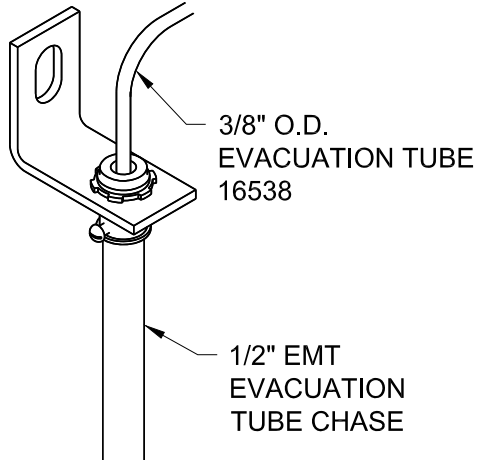
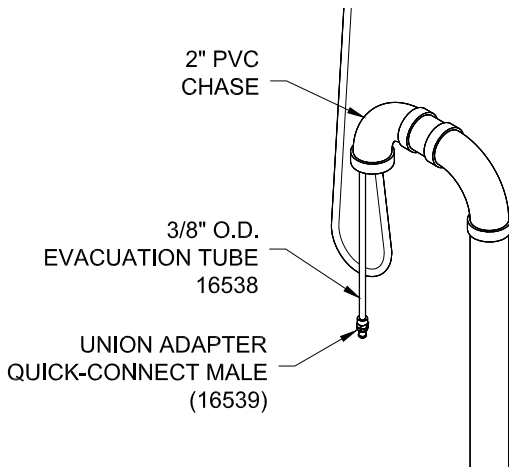

Fig 6 – Evacuation Tube Chase
Fig 7 – Evacuation Tube Quick-Connect
- 9) Trim the 3/8" O.D. evacuation tube at an angle, pull it out of the 2" PVC chase toward the lift, and push it down through the metal evacuation tube chase (1/2" EMT conduit, factory installed, see Fig 6) until it extends to the bottom of the lift containment. Trim the 3/8" evacuation tube at the power unit and install the Male Quick-Connect Union Adapter, Fig 7.